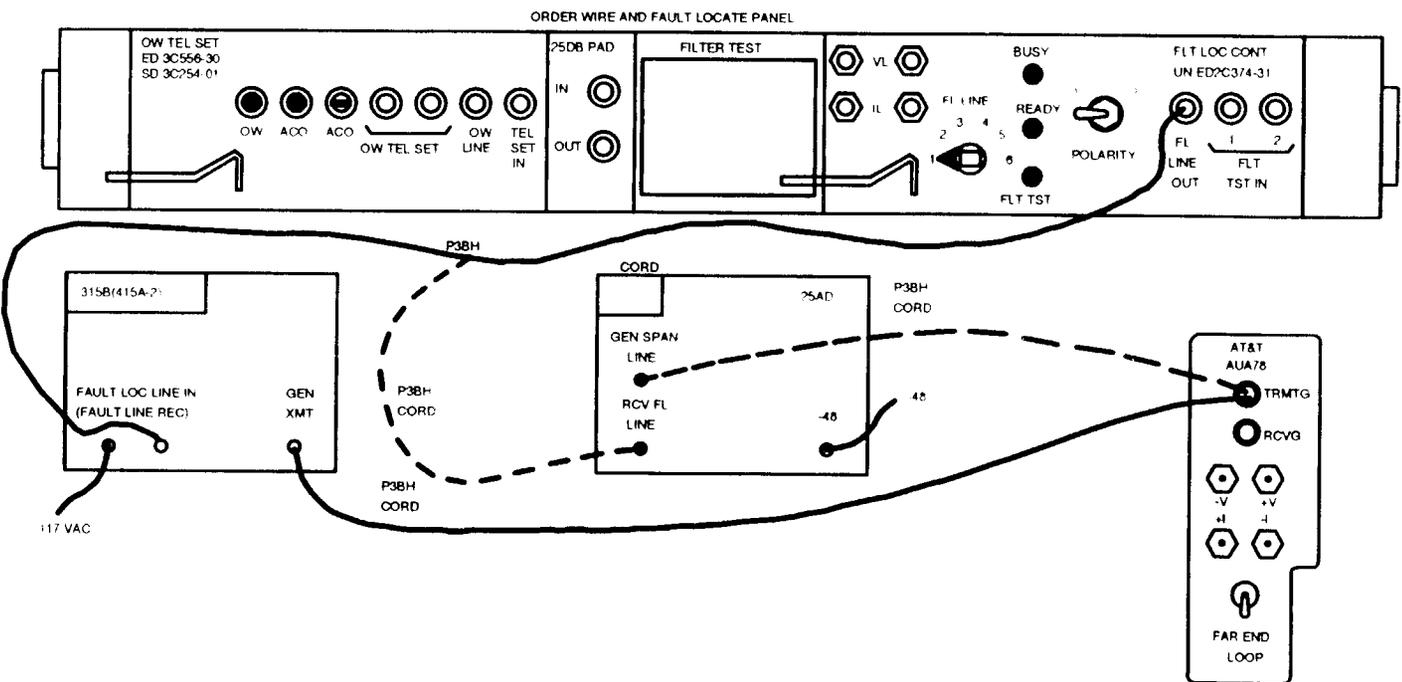

Figure 3 — COT Fault-Locating Configuration
10. Plug power cord into -48 V source (Figure 3).